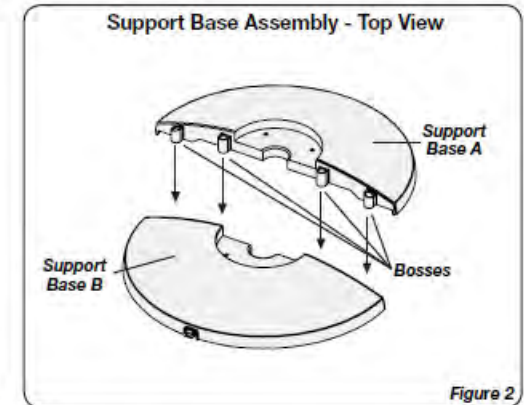

Figure 2
4. Assemble the Bases by interlocking the **Bosses** on **Support Base A** into the **Boss Holes** on **Support Base B**. Thread the **Power Supply Cord** through the large hole in the center of the **Support Base Assembly**. (**Figure 2**)